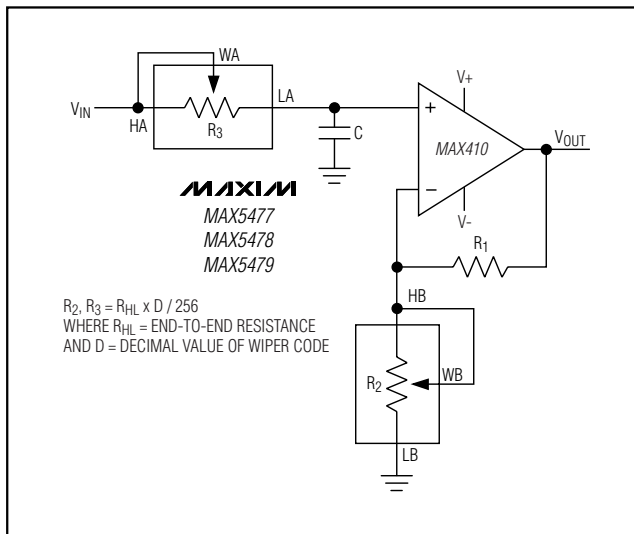

Figure 11. Programmable Filter
Figure 11 shows the MAX5477/MAX5478/MAX5479 in a 1st-order programmable application filter. Adjust the gain of the filter with R₂, and set the cutoff frequency with R₃. Use the following equations to calculate the gain (A) and the -3dB cutoff frequency (f_c):